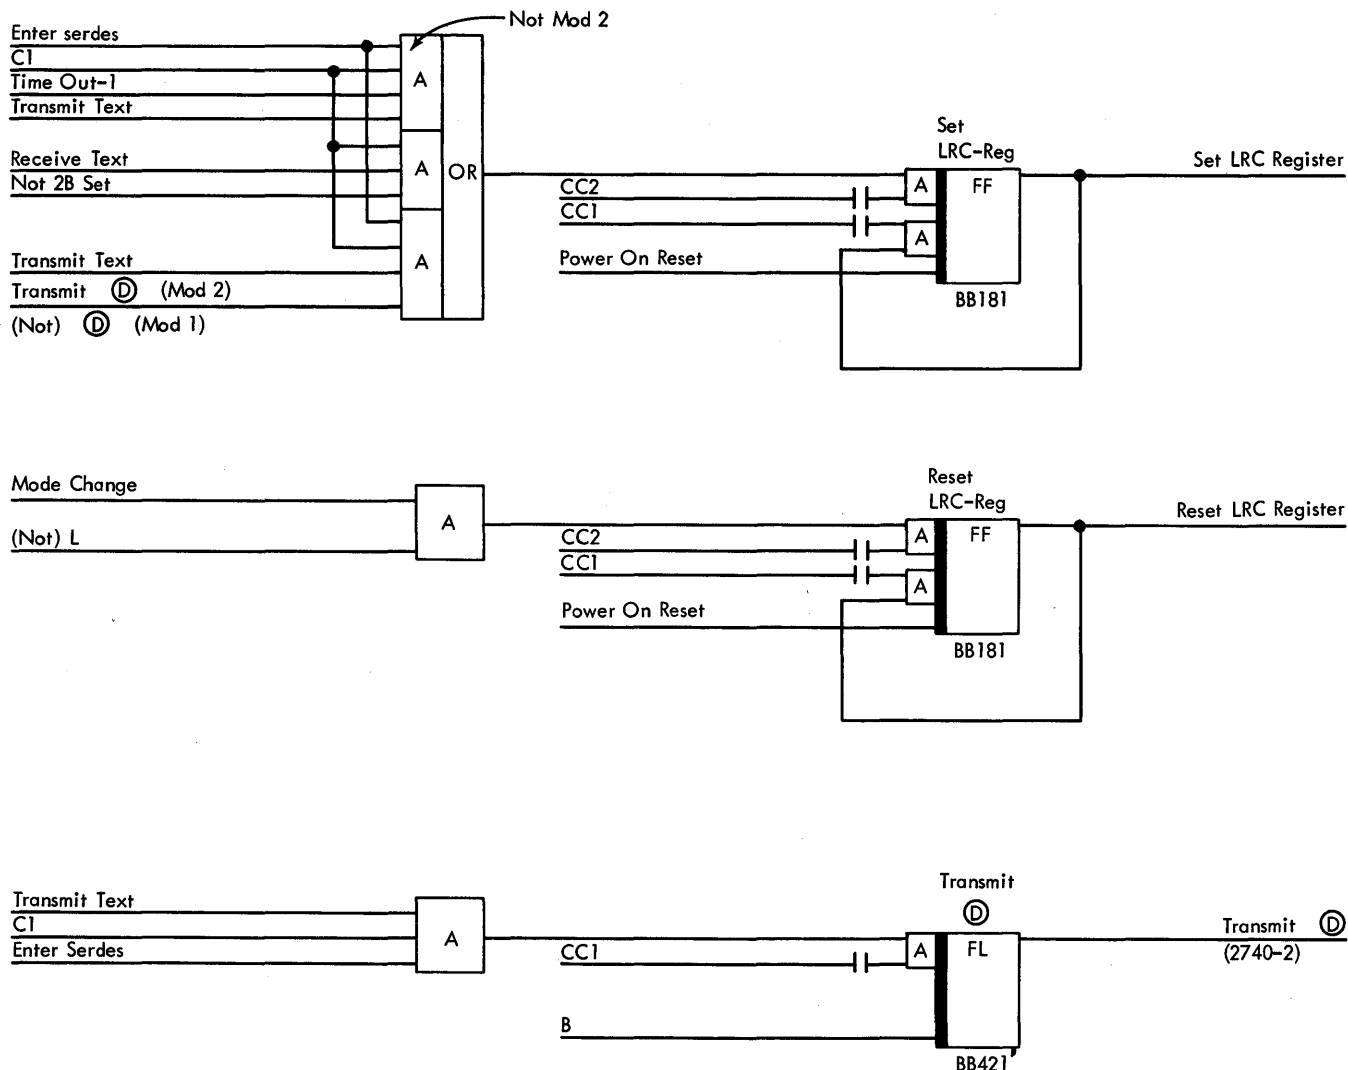

Figure 4-2. LRC Register Control
Control of the LRC-register is shown in Figure 4-2. All characters sent or received while the terminal is in a "text" mode are entered into the LRC-register. In transmit-text mode, when 'enter serdes,' 'C1,' and 'time-out 1' are up, the 'set LRC' trigger turns on. 'Set LRC' gates the character from the 1B-register to the LRC-register. The 'set LRC' trigger then gates itself off. Another AND, conditioned by 'transmit text,' 'enter serdes,' 'C1,' and 'not (D),' also turns on the 'set LRC' trigger. 'Not (D)' prevents the (D) character from entering the LRC-register. For the model 2 the 'not (D)' line is replaced by 'transmit (D)'. The 'transmit (D)' trigger does not turn on until after the first character ((D)) is transmitted.